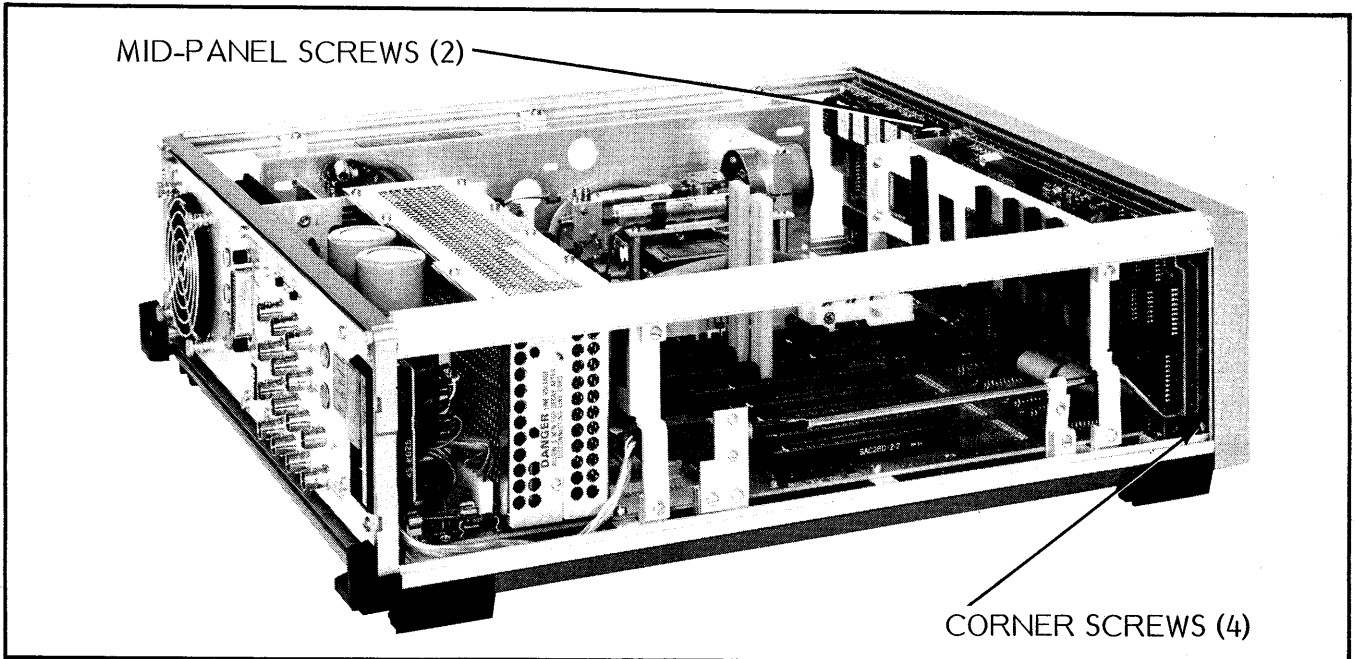

Figure 7-3. 6600A Series Programmable Sweep Generator, Side View
5. Using a 3/32-inch hex wrench, remove the four corner and two mid-panel screws securing the front panel assembly to the basic frame (Figure 7-3).